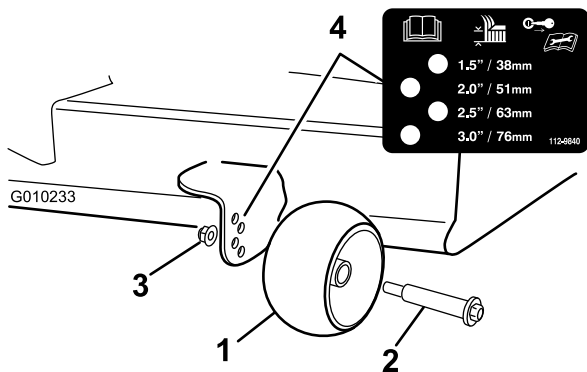

Figure 16
3. Adjust the anti-scalp rollers as shown in Figure 16 to match the closest height-of-cut position.